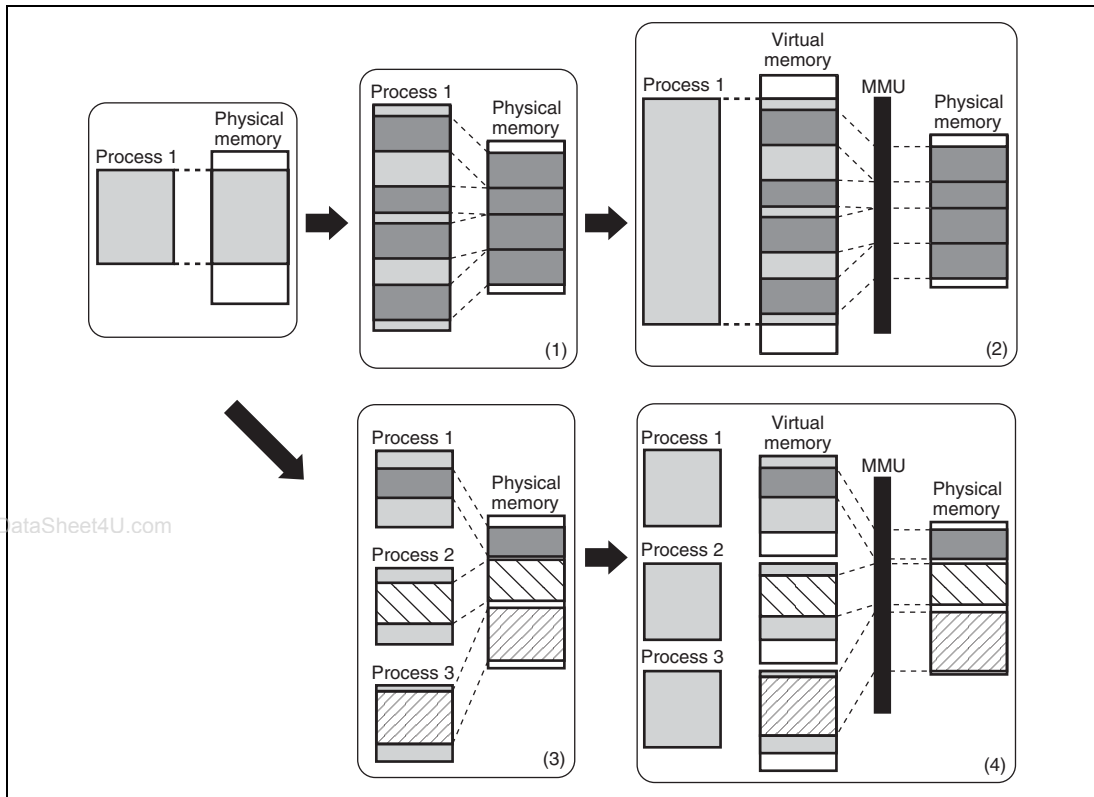

Figure 4.1 MMU Functions
The MMU is a feature designed to make efficient use of physical memory. As shown in figure 4.1, if a process is smaller in size than the physical memory, the entire process can be mapped onto physical memory. However, if the process increases in size to the extent that it no longer fits into physical memory, it becomes necessary to partition the process and to map those parts requiring execution onto memory as occasion demands (figure 4.1 (1)). Having the process itself consider this mapping onto physical memory would impose a large burden on the process. To lighten this burden, the idea of virtual memory was born as a means of performing en bloc mapping onto physical memory (figure 4.1 (2)). In a virtual memory system, substantially more virtual memory than physical memory is provided, and the process is mapped onto this virtual memory. Thus a process only has to consider operation in virtual memory. Mapping from virtual memory to physical memory is handled by the MMU. The MMU is normally controlled by the operating system, switching physical memory to allow the virtual memory required by a process to be mapped onto physical memory in a smooth fashion. Switching of physical memory is performed via secondary storage, etc.
The virtual memory system that came into being in this way is particularly effective in a time-sharing system (TSS) in which a number of processes are running simultaneously (figure 4.1 (3)). If processes running in a TSS had to take mapping onto virtual memory into consideration while running, it would not be possible to increase efficiency. Virtual memory is thus used to reduce this load on the individual processes and so improve efficiency (figure 4.1 (4)). In the virtual memory system, virtual memory is allocated to each process. The task of the MMU is to perform efficient mapping of these virtual memory areas onto physical memory. It also has a memory protection feature that prevents one process from inadvertently accessing another process's physical memory.